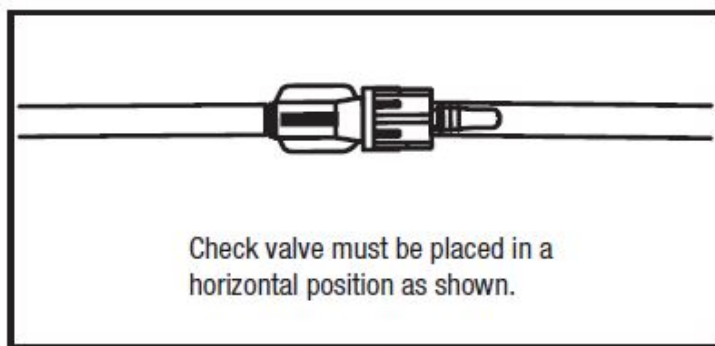
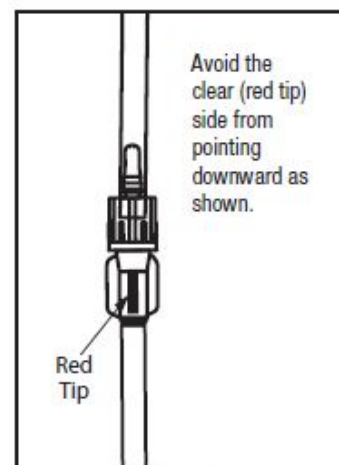

Figure 4a
Figure 4b
• Check valve must be placed in a horizontal position (Figure 4a, page 2). Avoid the clear (red tip) side from pointing downward (Figure 4b, page 2). See step 3 on page 3 or 4.